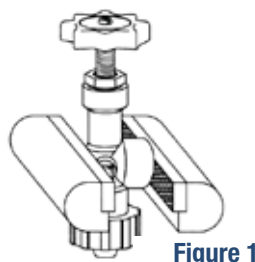

Figure 1
- Place the adapter valve in the vise so that the handwheel is up and the valve outlet is held flat against one of the vice jaws. Make sure that the ACME hand nut at the bottom of the valve clears the vice jaw (see Fig. 1). Do not overtighten. Overtightening the vise can distort the valve body, making it difficult to remove the poppet assembly. Should this occur, the entire valve must be destroyed so it cannot be reused.